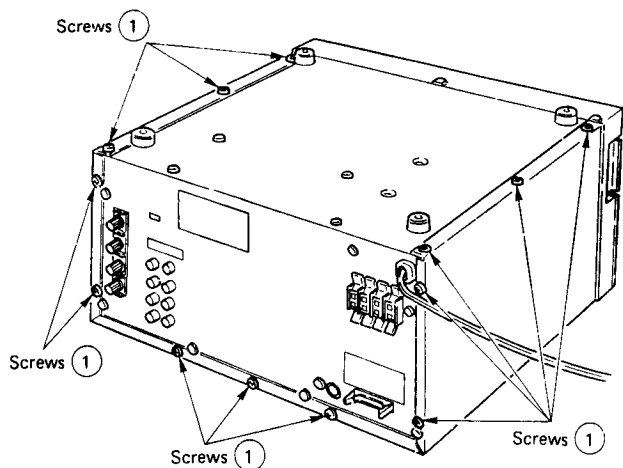

Fig. 1
- 1) Remove the thirteen top cover fixing screws (1) as shown in Fig. 1.